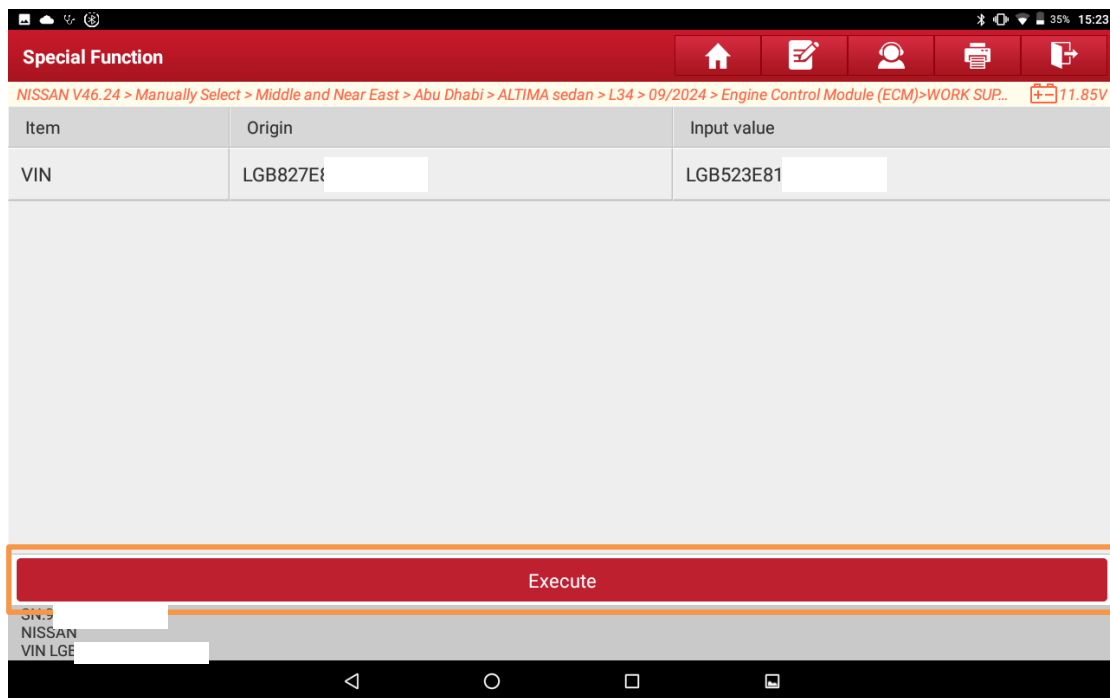

Figure 15
10. Click "Execute" to perform the VIN registration/writing function (Figure 15).